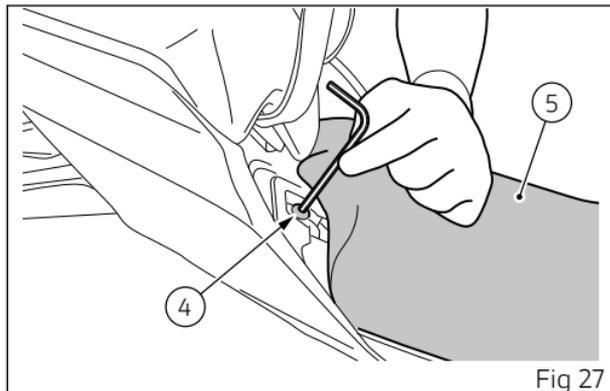

Fig 27
- Refit the rider seat (5) by resting the front of it on the lower edge of the tank and moving it backwards until the pad (C) locks into place between the brackets (D).
- Lift the rear edges of the seat (5) and, by checking the hole alignment, fasten it by tightening screws (4) (Fig 27).
- Check proper rider seat (5) fastening by trying to raise its front end.